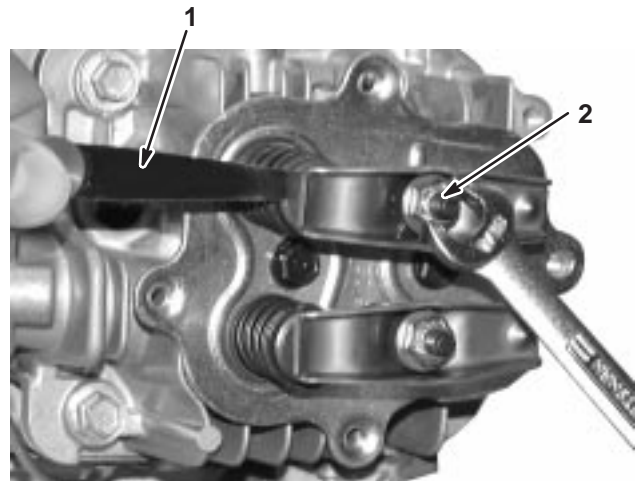

Fig. 61 – Adjust Rocker Arm Clearance, Current Style
5. If not, adjust jam nut until correct clearance is obtained, Fig. 61.